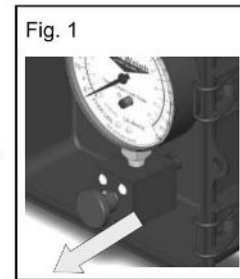

Fig. 1
**Step 5:** Pull the “push-pull” valve to switch the valve into the open position. (Fig. 1)